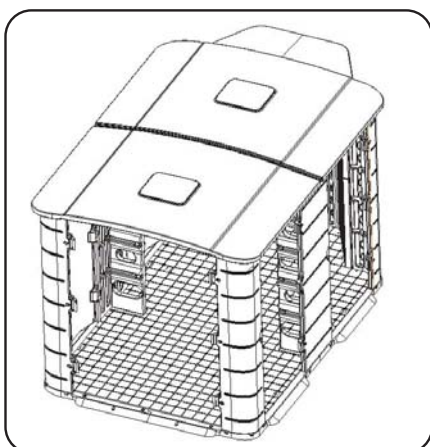

Figure 23
Place the second main roof with the skylight in place on the front corner posts and the center posts. Bolt the roof to these posts by using the easybolts (item 5) as in step 18. See figures 23 and 24.